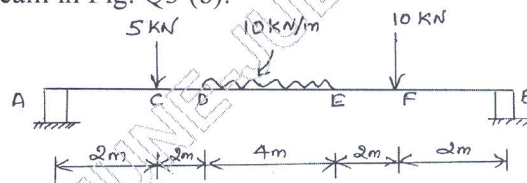

Fig. Q3 (b)
b. Compute the reactions and draw shear force diagram and bending moment diagram for simply supported beam in Fig. Q3 (b). (14 Marks)